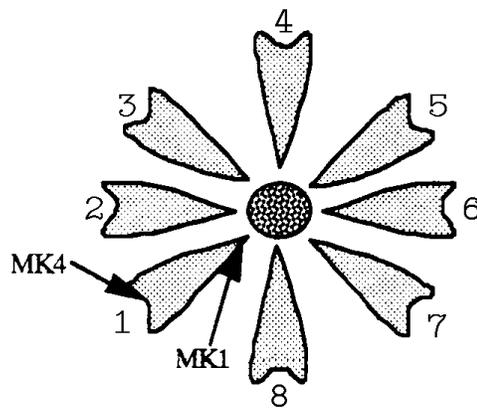

Figure 4-25
In our example, enter the Mk1 at the location shown at position 1 in Figure 4-25. This will put the point of the petal at that location.
4. Repeat the recall symbol sequence at the other locations where you want to insert the stored symbol. Remember to enter the Mk1 in the appropriate recall symbol box; then enter the Mk1, Mk4 combination to insert the symbol at the proper location and orientation you want them in the design (see locations 2 through 8 in Figure 4-25).